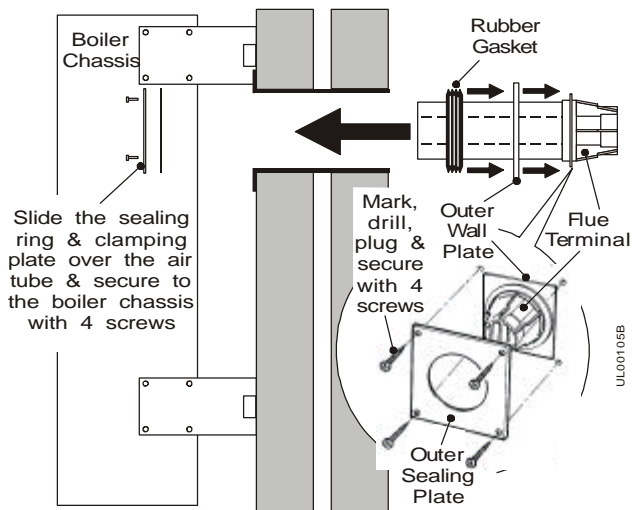

Fig. 13
10. Locate the outer wall plate and rubber gasket onto the die cast flue terminal. See Fig. 13.
15. Slide the sealing ring and clamping plate over the flue and push up to the boiler chassis. Secure using the four screws previously removed. See Fig. 13.